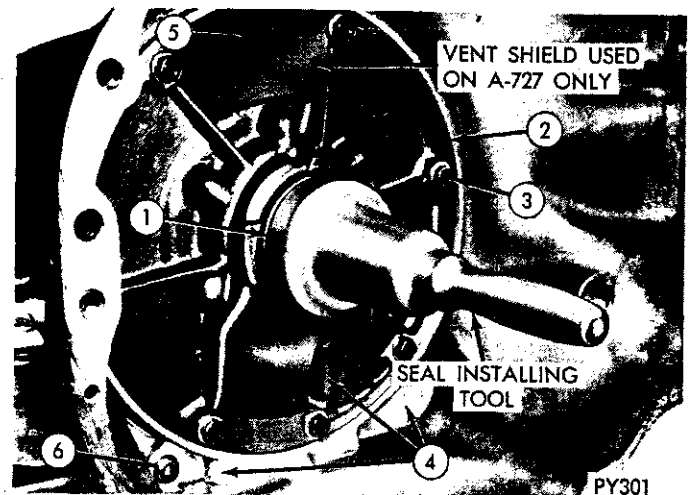

Fig. 2—Transmission Converter Area
(6) If upper surface of test probe is dry, there is no converter leak. A path of fluid across probe indicates a converter leak. Oil leaking under the probe is coming from the transmission converter area (Fig. 2).
(7) Remove transmission and torque converter assembly from vehicle for further investigation. The fluid should be drained from the transmission and converter. Re-install converter drain plug and oil pan (with new gasket) at specified torque.
Possible sources of transmission converter area fluid leakage shown in (Fig. 2) are: